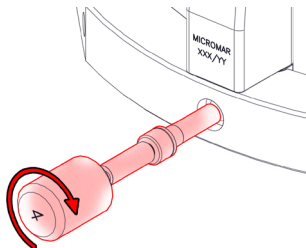

Figure 13
2. Insert the Extension Posts, each in their position, in the Frame's internal part (Figure 13);